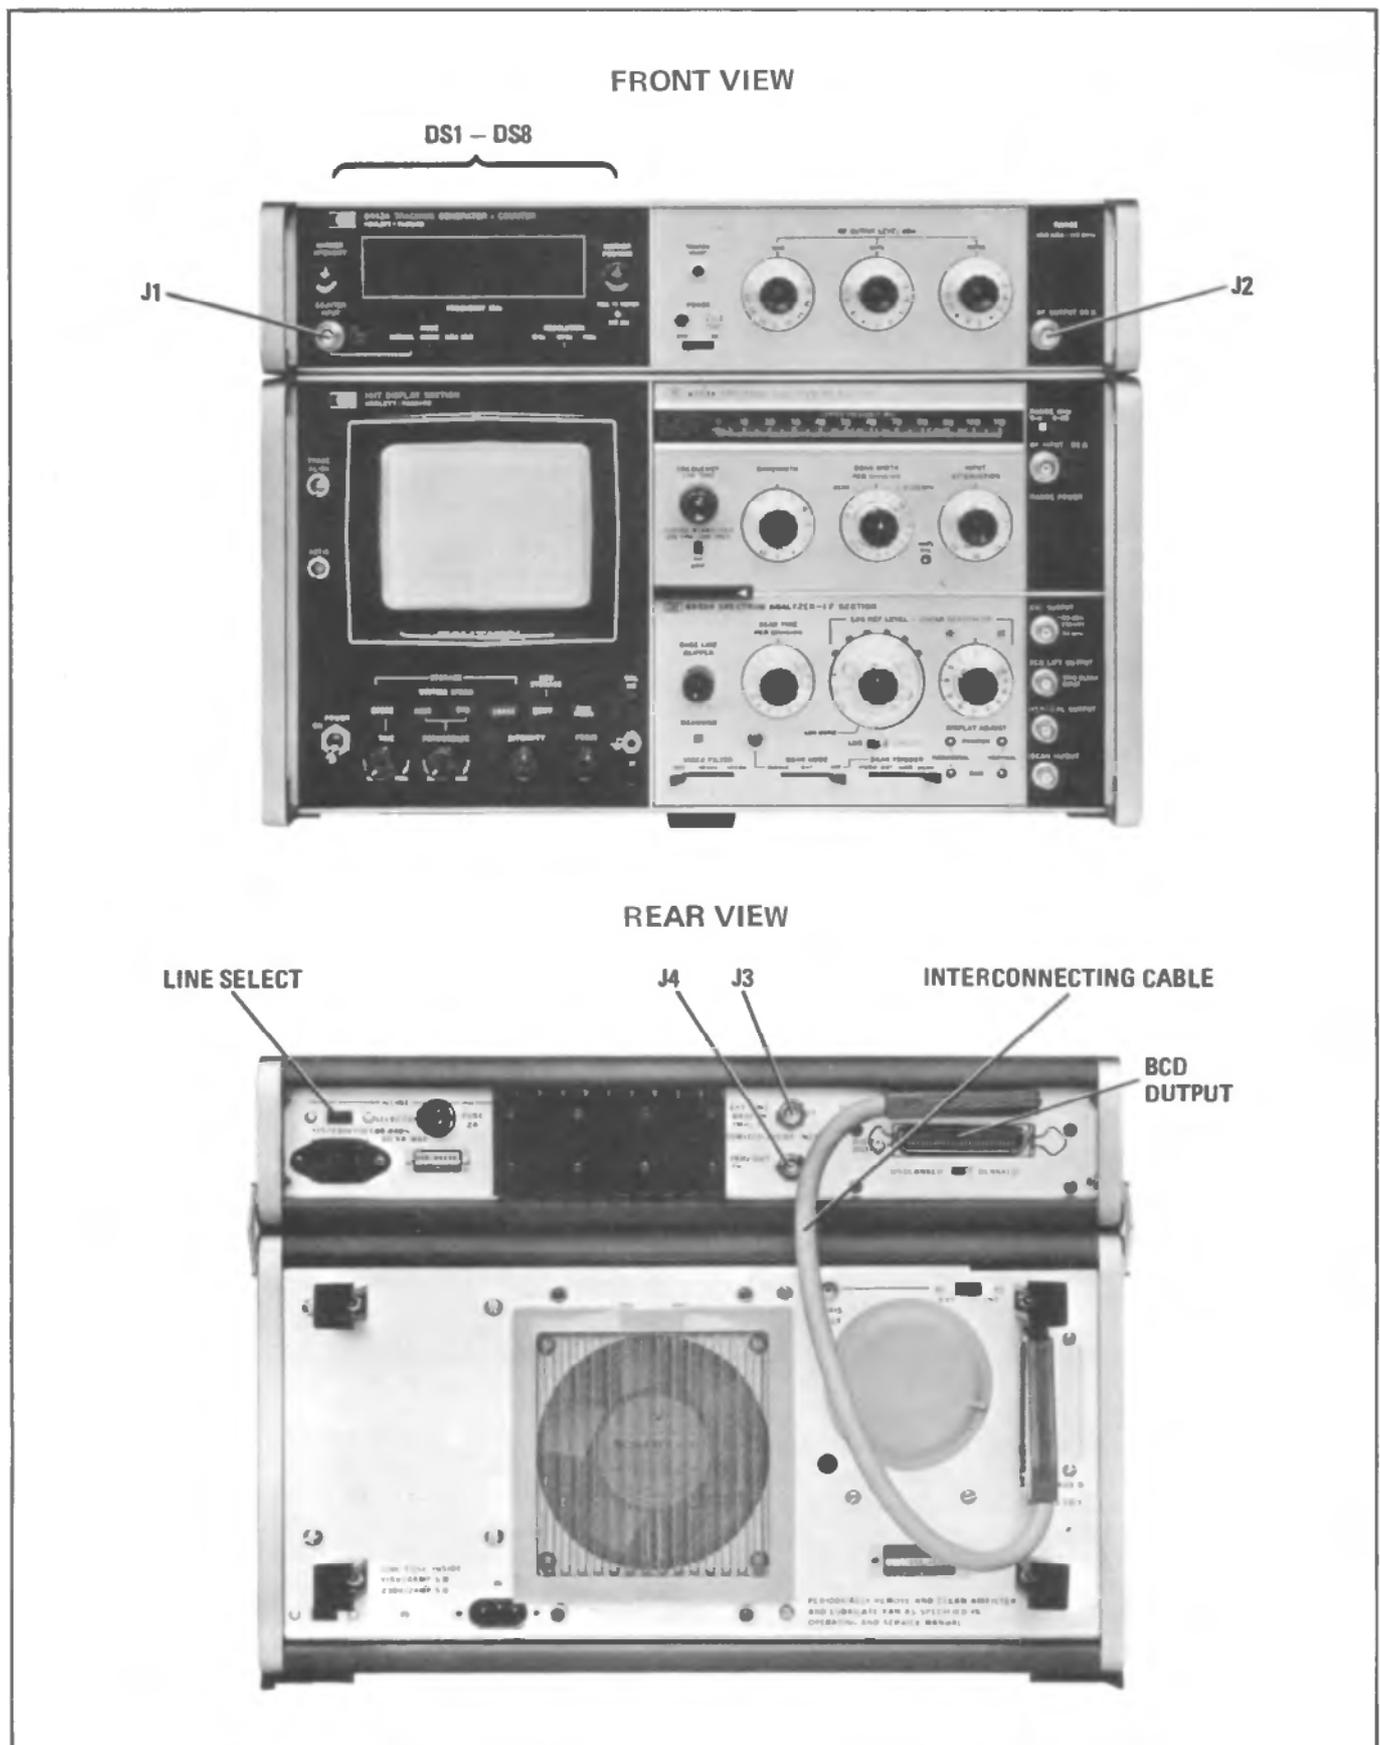

Figure 3-1. Tracking Generator/Counter Controls, Connectors and Indicators
3-5. Front and rear panel controls, indicators and connectors of the model 8443A are identified in Figure 3-1.
c. Interconnect the Spectrum Analyzer and the Tracking Generator/Counter as shown in Figure 3-1.